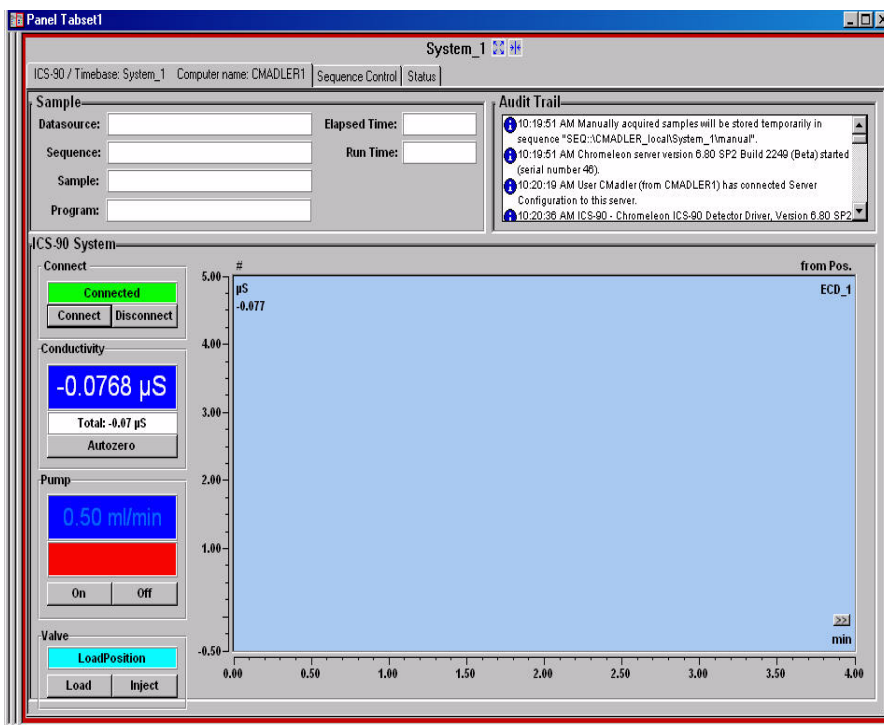

Figure 2-9. ICS-90 Control Panel on the Panel Tabset
- Chromeleon Xpress is a system controller that replaces and combines the front panels of all system modules into one centralized system Control panel, called a *panel tabset*. The **ICS-90** tab provides access to ICS-90 functions, as well as to detailed status and diagnostics information for the system (see Figure 2-9).